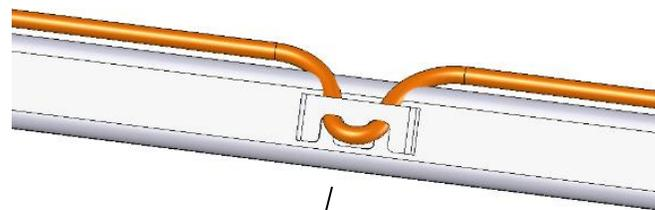

Figure 6
5. With the goal now fully assembled, place the net flat on the ground and locate the corners of the net. Locate the centerline of the bound edge that will be attached to the top crossbar. The centerline of the binding will be attached to the centerline clip of the crossbar. Attach the net by first pushing the outer binding through the clip, then securing in the groove (Fig. 6). Start in the middle of the crossbar and move outward, attaching every other clip, and then go back through and attach the remaining clips. Once clipped, apply weight to the clipped net to stretch material. Next, work down both uprights, ensuring that the net is on the outside of the End Frame. Follow the same procedure used for the crossbar. Finish by attaching the net to the sides and bottom crossbar in the same manner.